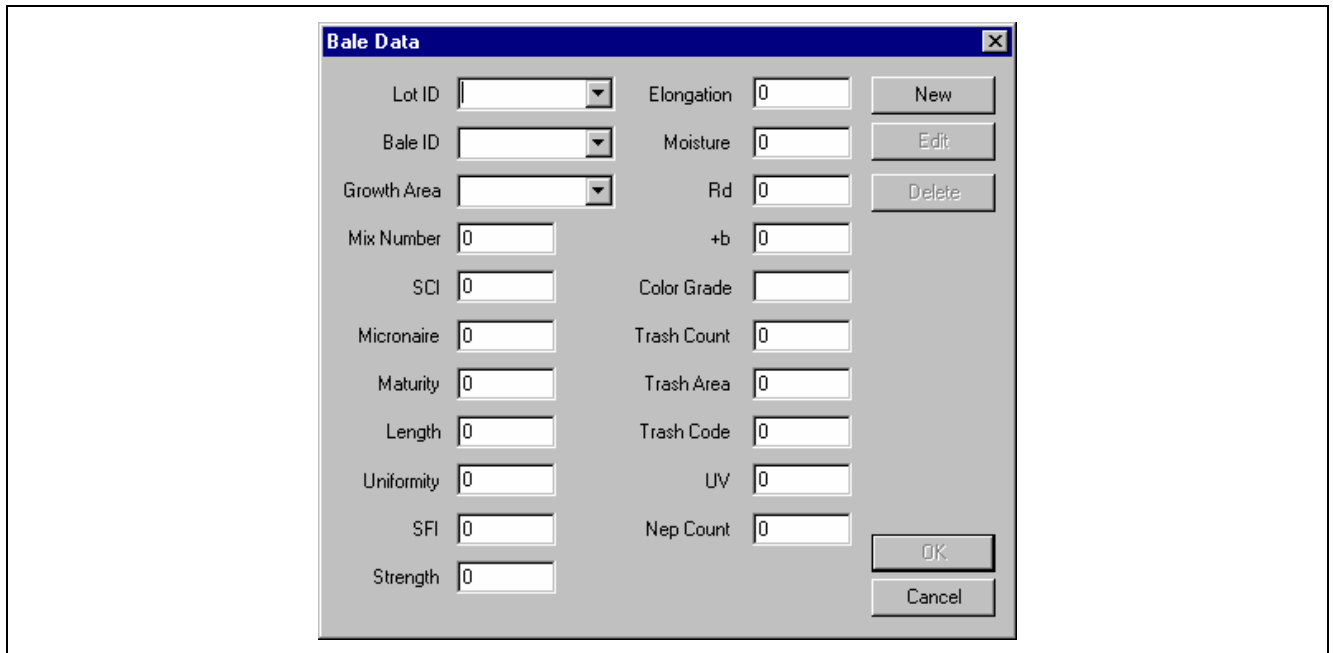

Fig. 6-98 Edit Bale Data Screen
29.1 Select Bale Data to see the Bale Data window of Fig. 6-98.